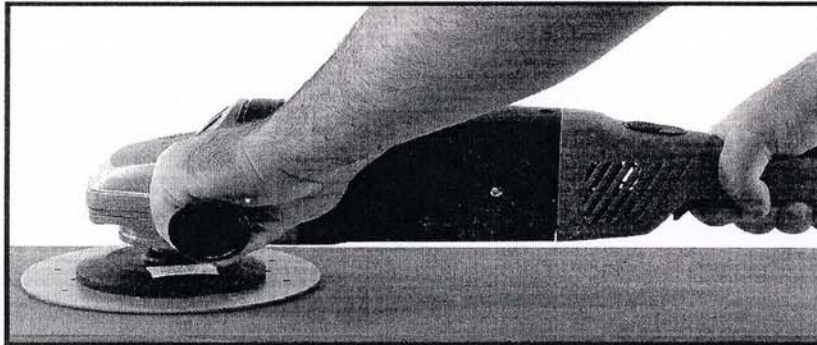

Fig. 6
3. Hold sander firmly by the rear and auxiliary handles, making sure sanding disc is clear of work and foreign objects. Start sander and lower so that sanding disc is FLAT on work surface, Fig. 6.